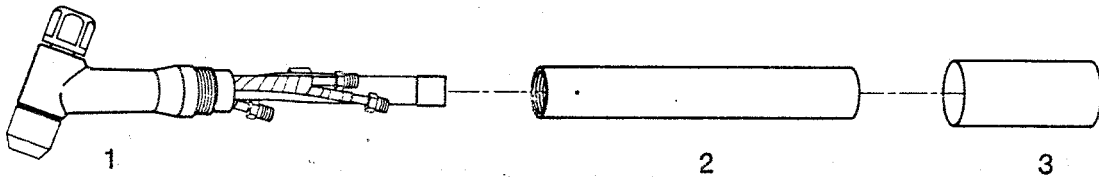

Figure 2-A Hand Torch Assembly
If torch is not attached to leads, assemble as follows (See Fig. 2-A):
2. Feed the end of the leads with the torch fittings through the shrink tubing (3) and handle and connect to the torch, matching the lead to the torch fitting by color code. Do not overtighten.
4. Slide the shrink tubing about half way on over the handle. With a heat gun shrink the tubing until it is snug on the handle and the leads (Fig. 2-B).